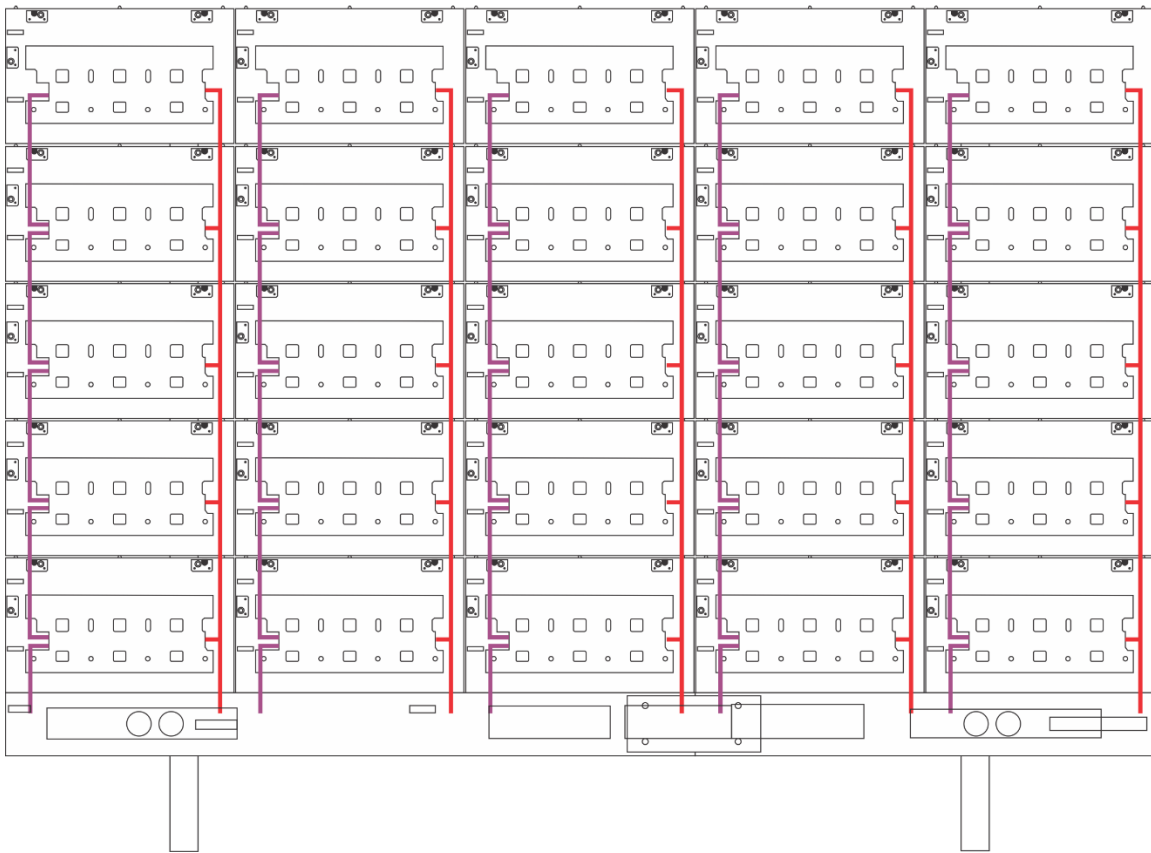

Figure 25
10. Connect the Power and Signal (data) cables between the panels as shown in Figure 25. Red indicates a 5-branch power cable and purple indicates a data (network) cable. See Section 5.2.4 for connections on the Sending Card.